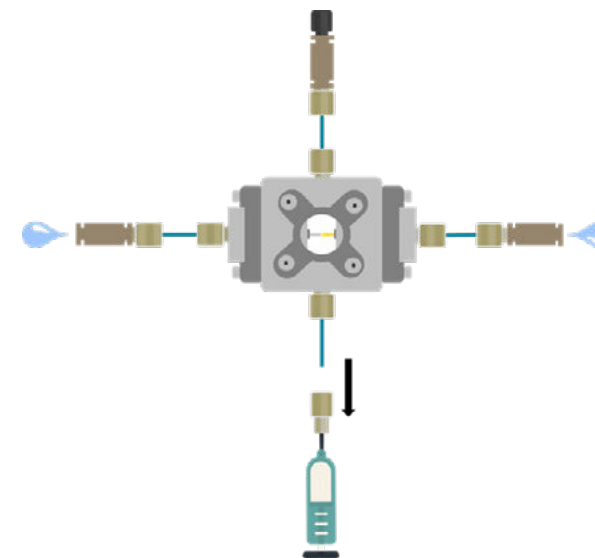

Figure 30: Disconnecting the Syringe with solvent
- 7 Disconnect the syringe tubing (Fig 30).